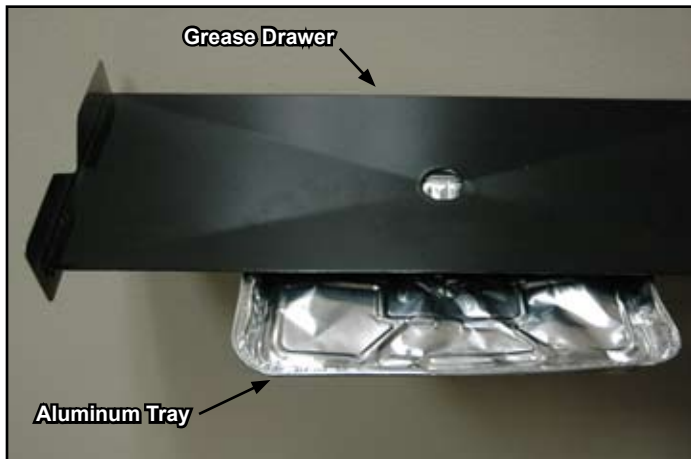

Figure 4
2. Pull the grease drawer out of the grill at the left front corner. Check that the aluminum tray is secured in the brackets underneath the drawer and slide the drawer back into the grill. (See Figure 4).